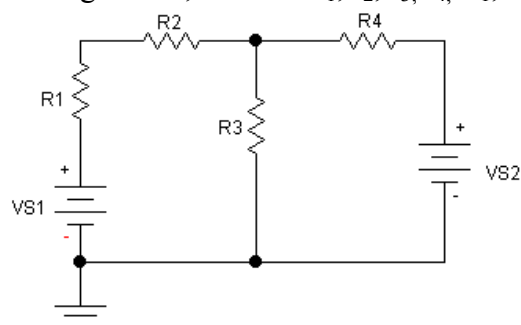

Figure 3.4
4. In the circuit of Figure 3.4, find the response of  $I_{R1}$ ,  $I_{R2}$ ,  $I_{R3}$ ,  $I_{R4}$ ,  $V_{R1}$ ,  $V_{R2}$ ,  $V_{R3}$  and  $V_{R4}$  using superposition; with  $V_{S1} = 5$  V,  $V_{S2} = 10$  V,  $R_1 = 1$  k $\Omega$ ,  $R_2 = 1.5$  k $\Omega$ ,  $R_3 = 5.1$  k $\Omega$ ,  $R_4 = 510$   $\Omega$ . Show all computer simulation.
4. Construct the circuit of Figure 3.4, measure  $I_1$ ,  $I_2$ ,  $I_3$ ,  $I_4$ ,  $V_1$ ,  $V_2$ ,  $V_3$  and  $V_4$  using the DMM.